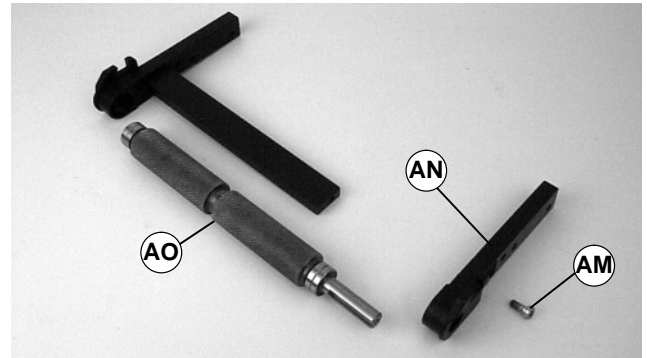

Figure 31
- Remove screw (AM of Figure 31).
- Remove headplate (AN).
- Remove pulley (AO).